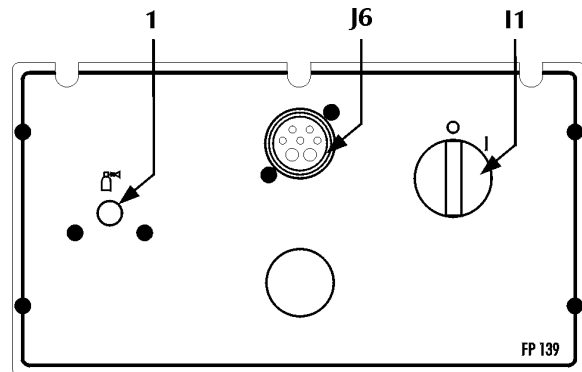

Fig.4
2.2 Rear control panel (Fig. 4)